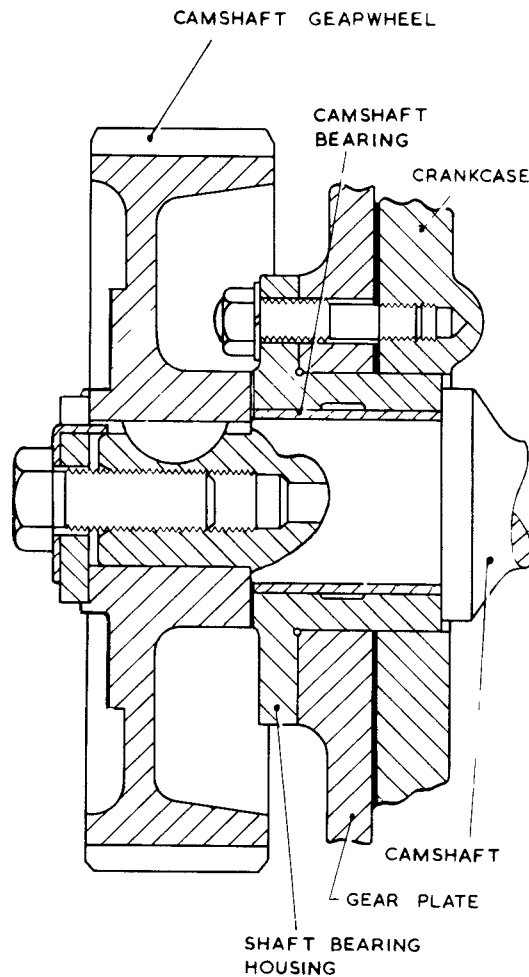

Fig. 21. Camshaft drive
(29) Draw the camshaft gearwheel (fig. 21) and remove the nuts on the bearing housing studs. Ensure that the tappets are clear of the camshaft, draw the camshaft from its bearings and collect the tappets.
(30) Take off the gear cover plate and the intermediate and fuel pump gearwheels.
- (1) With the crankcase inverted, fit the gear cover plate and the fuel pump gearwheel.
- (2) Put back the tappets and fit the camshaft and its front bearing housing (fig. 21). Fit the camshaft gearwheel and check the end float (Table 1).